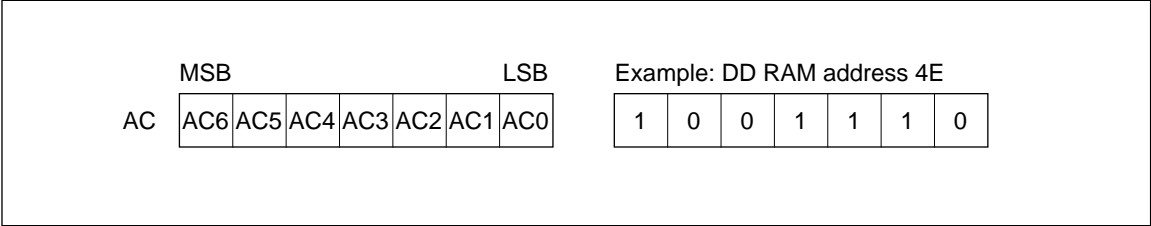

Figure 1 DD RAM Address
The DD RAM address (A_{DD}) is set in the address counter (AC) as a hexadecimal number, as shown in figure 1.